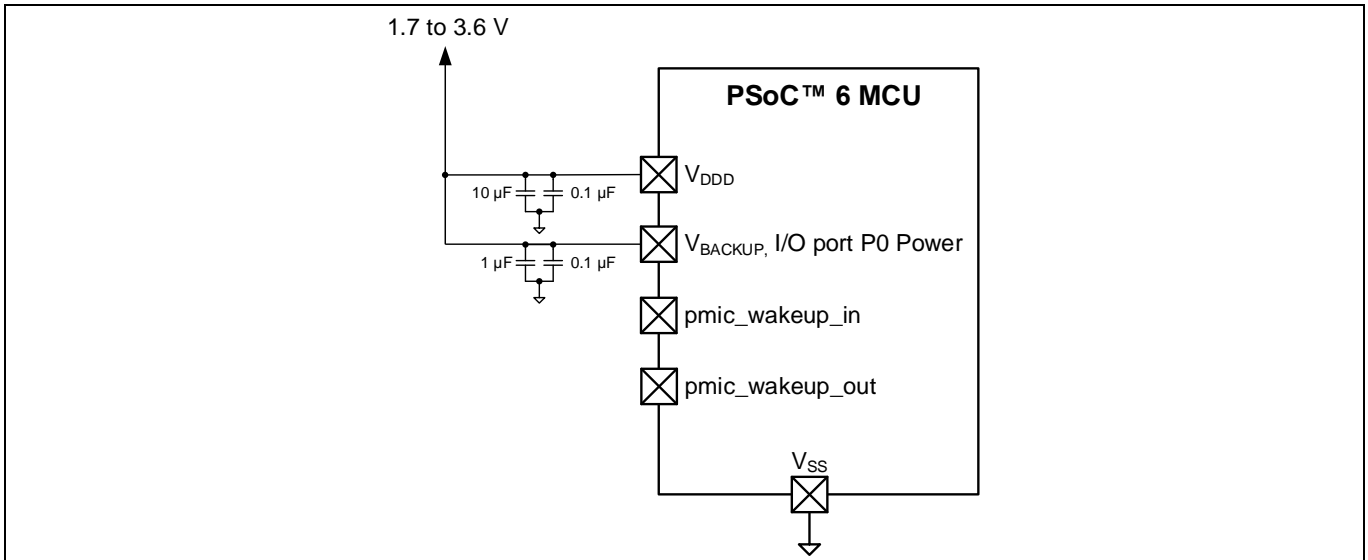

Figure 14 Backup domain combined connection
1. **V_{BACKUP} directly connected to V_{DD}** – When the backup domain is only used with the full PSoC™ 6 MCU device, there is no reason for a separate supply. V_{BACKUP} and V_{DD} supply pins must be directly connected together as shown in Figure 14.